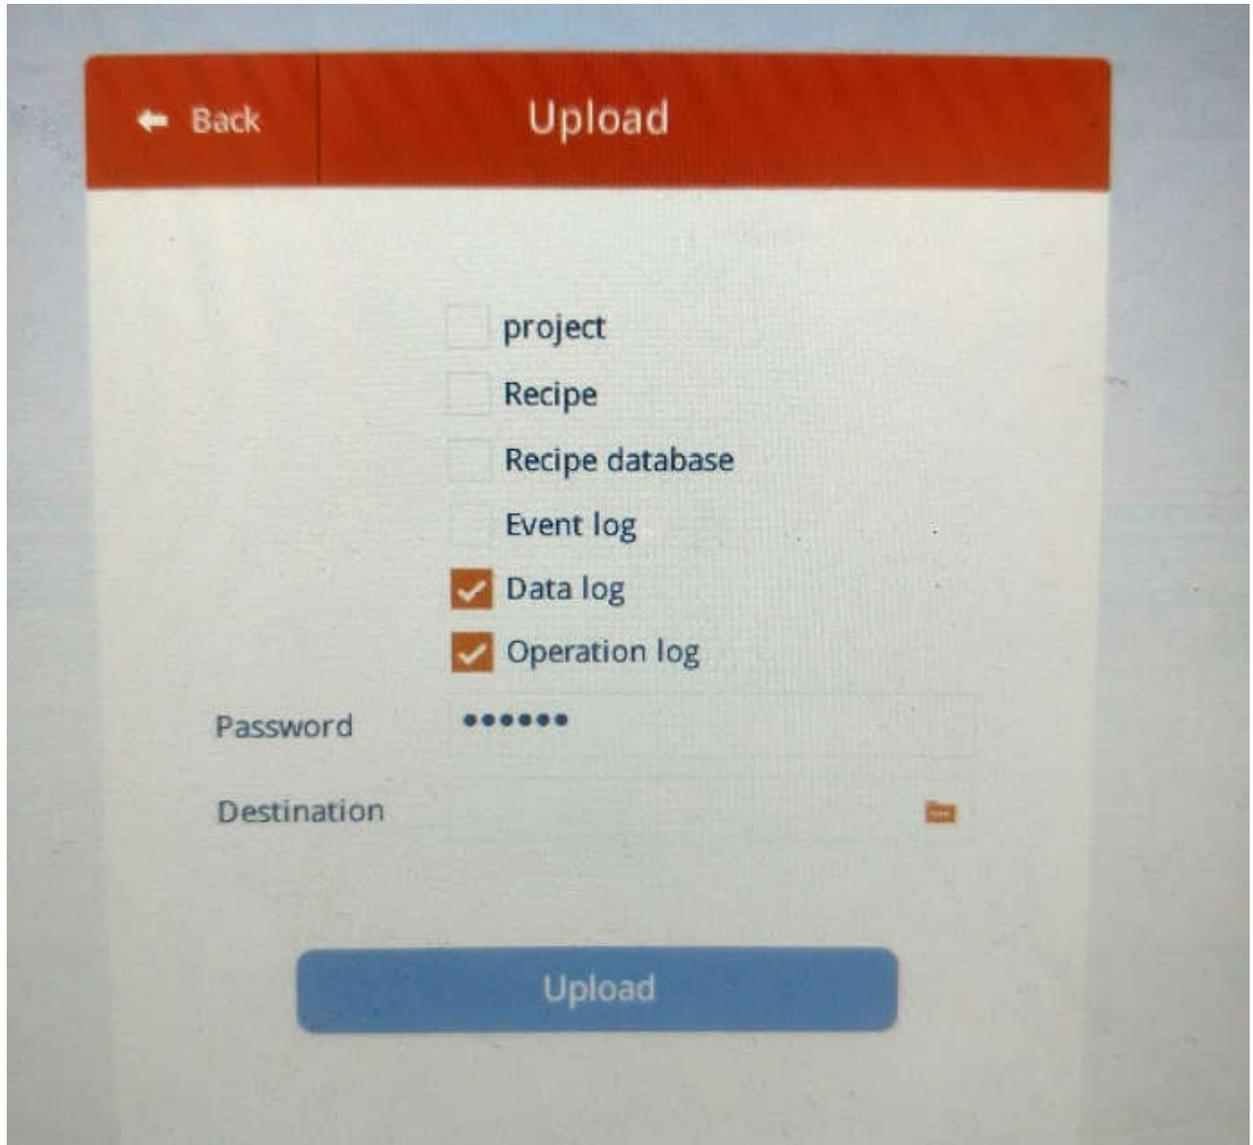
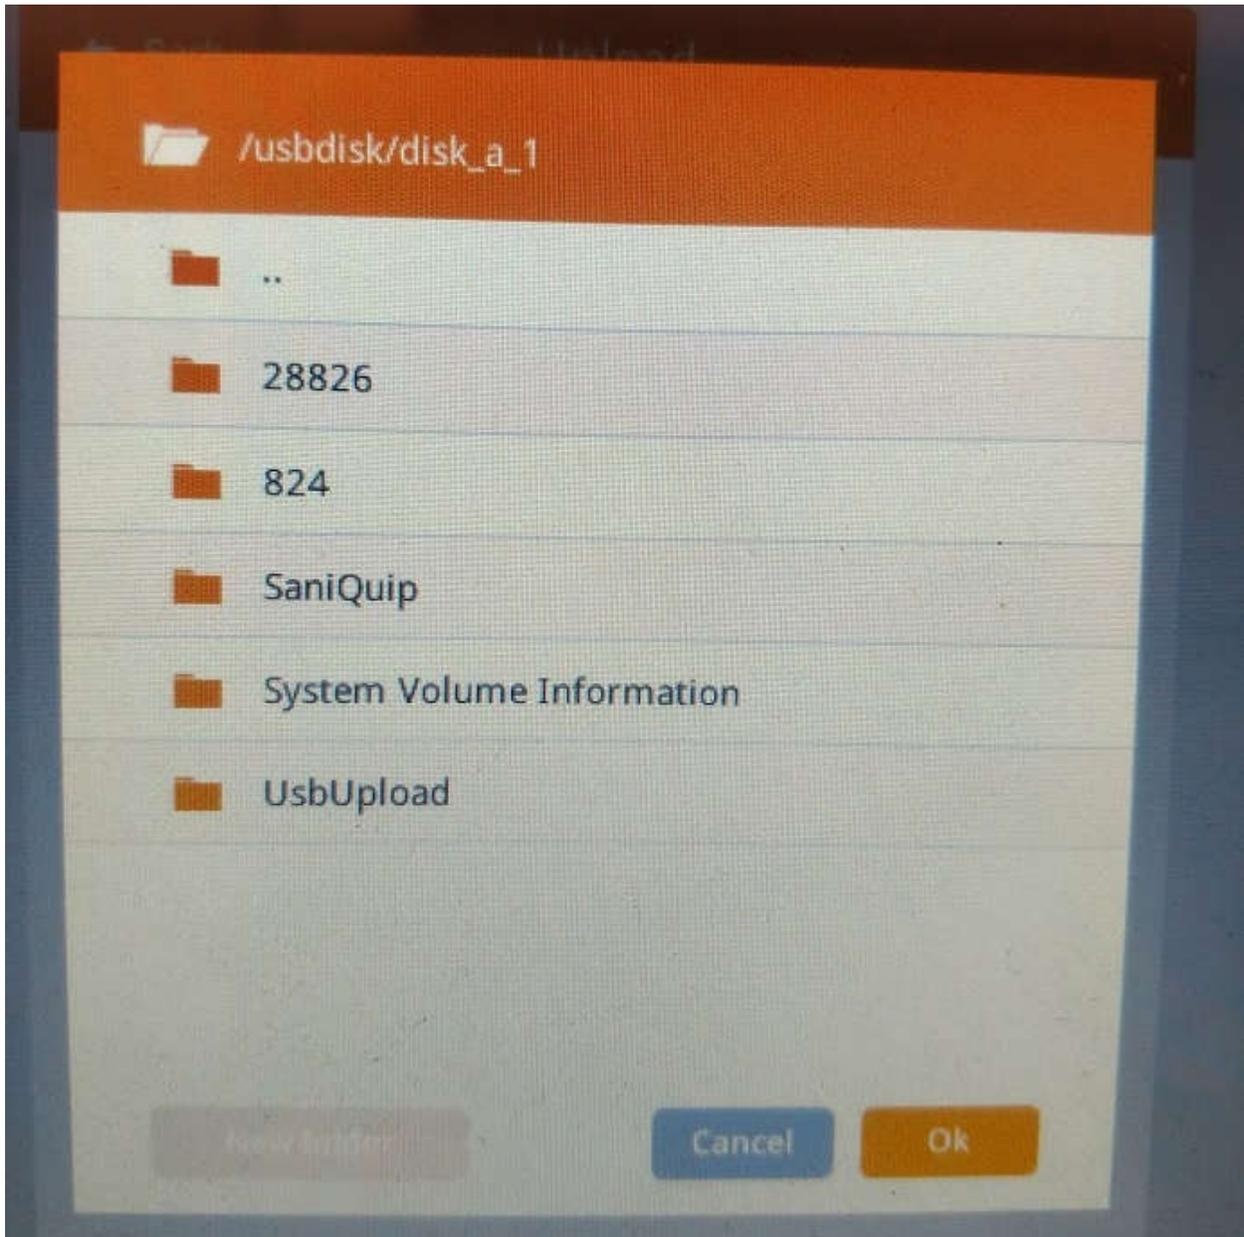

Fig. 23 Upload settings screen
Fig. 25 Folder selection screen
2. Press the upload button. Once this is done, the screen shown in fig. 23 will be displayed. Select the “Data log” and “Operation log” boxes and enter the upload password. This is set to 141516 as default. The screen should now look exactly like the one shown in Fig. 23.
4. After selecting the USB flash drive a screen similar to fig. 25 will be shown. It will have all of the existing folders on the flash drive listed. This is where the exact folder will be selected that the .db files are saved. A folder that already exists on the flash drive may be selected or a new folder may be created. To create a new folder, press the gray “new folder” button in the bottom left hand corner of fig.25.
5. Once a folder has been created or selected press the “ok” button in the bottom right hand corner of fig. 25. This will bring up a screen like the one shown in fig. 23 with the exception that the “destination” field will no be populated with the folder location.